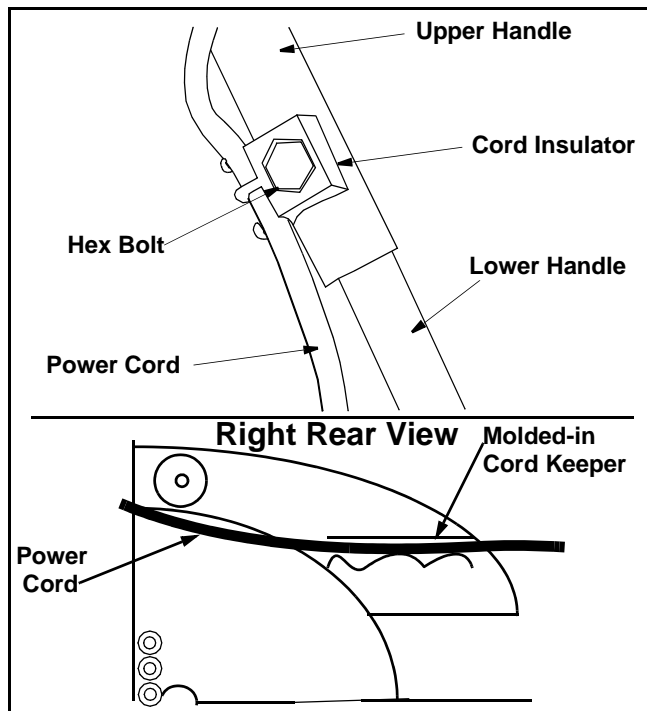

Figure 4
- Route the power cord through the cord insulator on the right handle and press it into the molded-in cord keeper on the right hand side of the deck as shown in Figure 4.